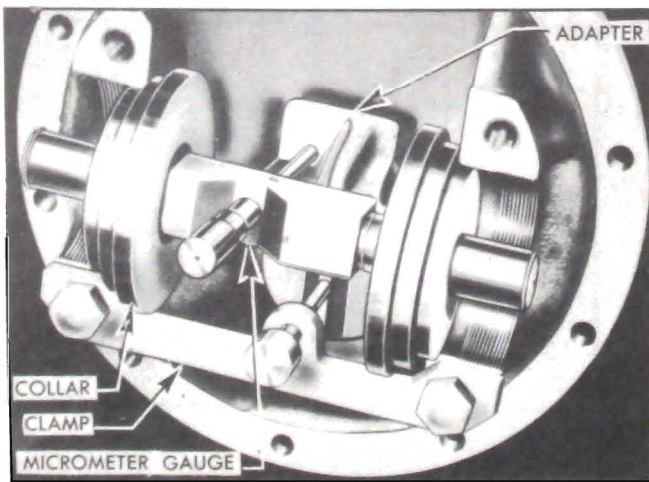

Figure 5-28—Pinion Setting Gauge Installed
2. Install adapter with clamp, and the micrometer gauge as shown in figure 5-28. The adapter must be firmly held against the pinion by the clamp. The micrometer gauge must be firmly seated in the differential bearing seats in carrier, with micrometer spindle at 90 degrees to surface of adapter.